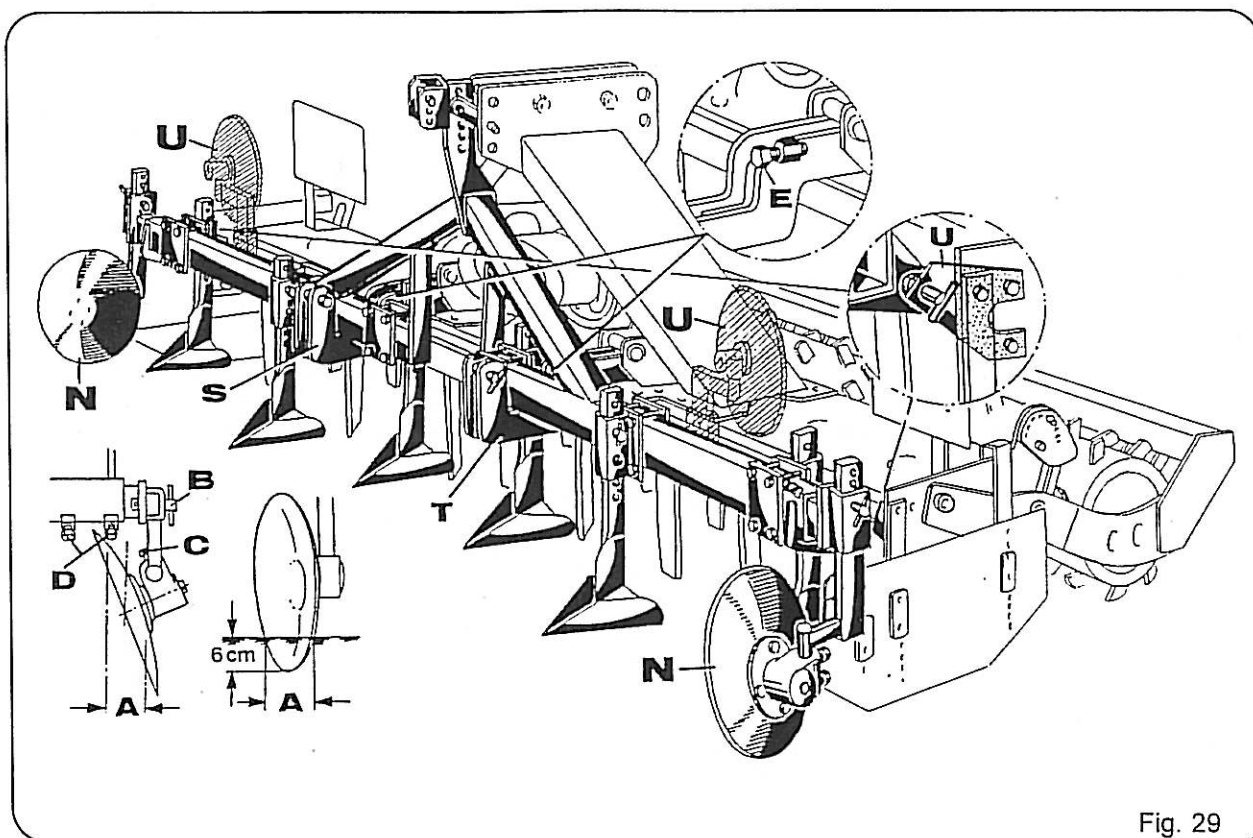

Fig. 29
- Fix the new lower guide connections on the bearing block (Fig. 29, item S and T).
- Screw the holders (Fig. 29, item U) with the bounce bar screws onto the bearing block (with the bush pointing towards the centre of the machine).
- Now fit the series cultivator onto the harrow as in Fig. 29.
- Now tighten up the screws (Fig. 29, item E) until the screw head presses firmly against the cultivator bar.
The feed discs fitted each side can be adjusted for height (Fig. 29, item B), angle of attack (Fig. 29, item A) and working width (Fig. 29, item C). Make the angle of attack as acute as possible (see measurement "A"). The working depth is usually about 6 cm.
To transport the unit the feed discs must first be raised from the work position (Fig. 29, item N) to the transport position (Fig. 29, item U). Otherwise there is a danger of injury and the admissible transport width of 3 m is exceeded.